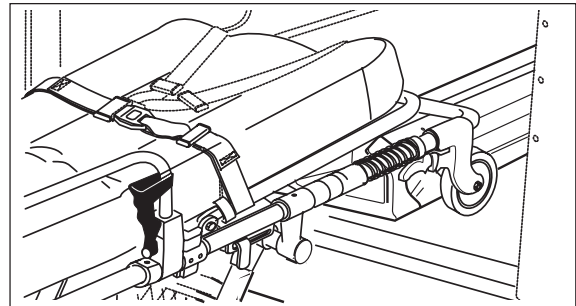
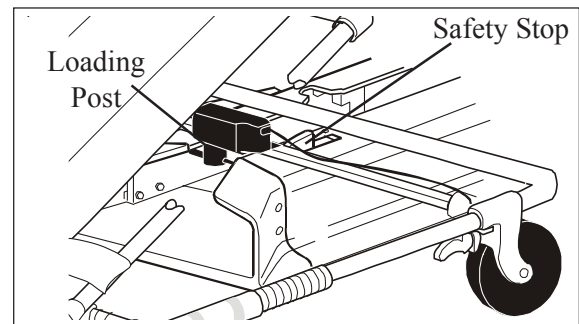

Figure 24 - Loading Wheels on Patient Compartment Floor
Figure 25 - Loading Post Aligned for Loading
1. *Both Operators:* Roll cot forward until both loading wheels are on patient compartment floor (Figure 24) and head-end loading post is aligned with cot fastener (Figure 25).